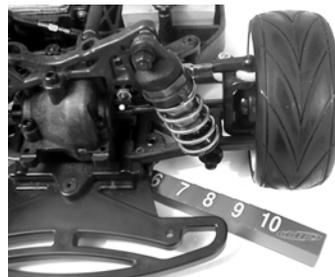

Fig. 4A, front
3. Slide the ride height gauge underneath the chassis, as shown in fig. 4A, until the gauge just touches the chassis and not the bumper, you might need to slide the gauge in the corner of the car as shown in fig. 4A. Check both corners of the front.